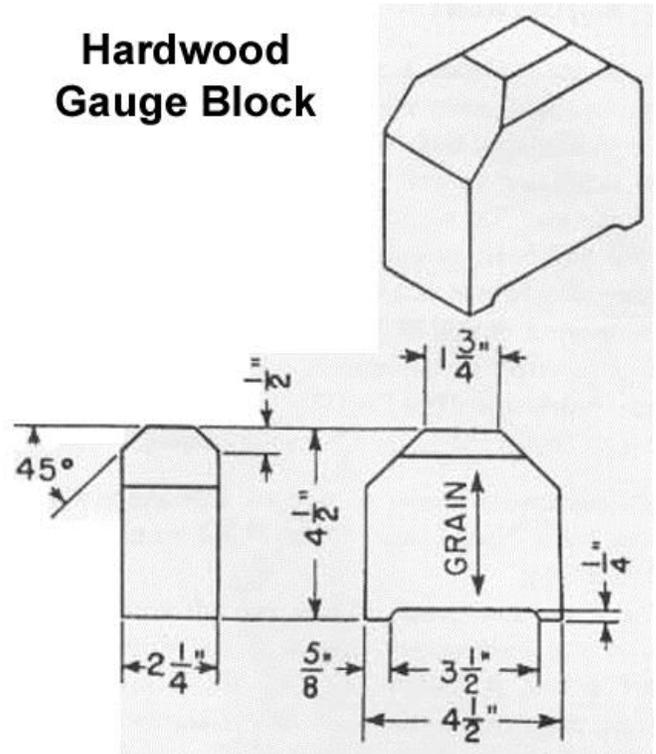

Fig. 16
- Home made gauge block of hard wood, with the dimensions as shown in Fig. 16.